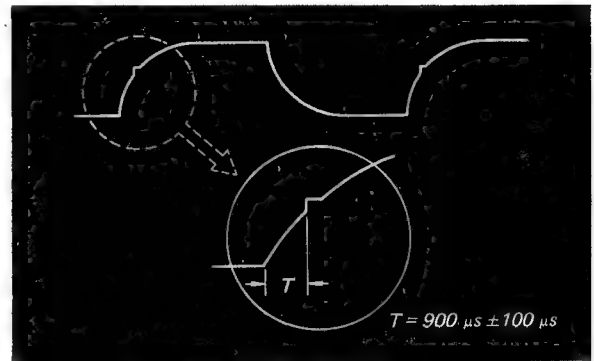

Fig. 7-3. TP-105 waveform
2. Adjust R141 so that the interval of the gate pulse is $900 \mu\text{s} \pm 100 \mu\text{s}$. See Fig. 7-3.